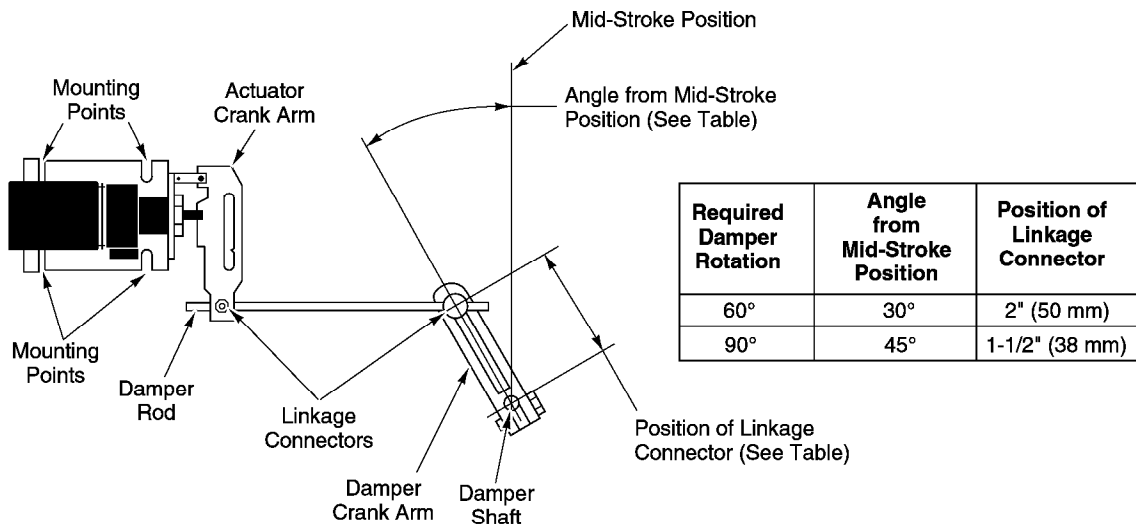

Figure-15 Recommended Actuator/Damper Mounting.
- b. Be sure to allow adequate working space around the actuator mounting location to mount the actuator, link it to the damper, and wire it into the system (refer to Figure-15).
- c. If possible, select a mounting position such that, at mid-stroke, the actuator crank arm and the damper crank arm on the drive shaft are each at a 90° angle to the damper rod (refer to Figure-15). This is the recommended mounting position. It may be necessary to swivel the actuator linkage to arrive at this mounting location.
- 2. Position the actuator on the duct and mark the location of the mounting holes, using the actuator mounting bracket as a template. Refer to Figure-15.